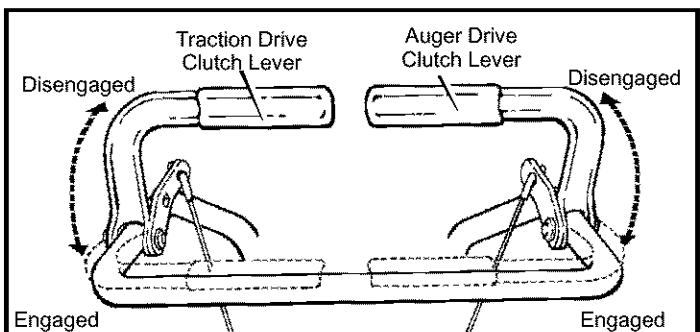

Figure 16
1. Start the engine as described in section "To Start Engine" (see Figure 16).
5. Engage auger drive clutch lever (right hand—Figure 16).
6. Engage traction drive clutch lever (left hand—Figure 16). As the snow blower starts to move, maintain a firm hold on the handles and guide the snow blower along the cutting path. Do not attempt to push the snow blower.
7. To stop forward motion, release traction drive clutch lever (left hand – Figure 16).
8. To stop auger, release auger drive clutch lever (right hand – Figure 16).